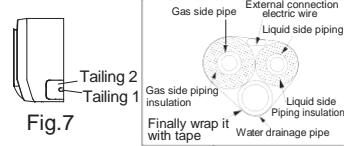

Fig.7
- When routing the piping and wiring from the left or right side of indoor unit, cut off the tailings from the chassis when necessary(As shown in Fig.7)